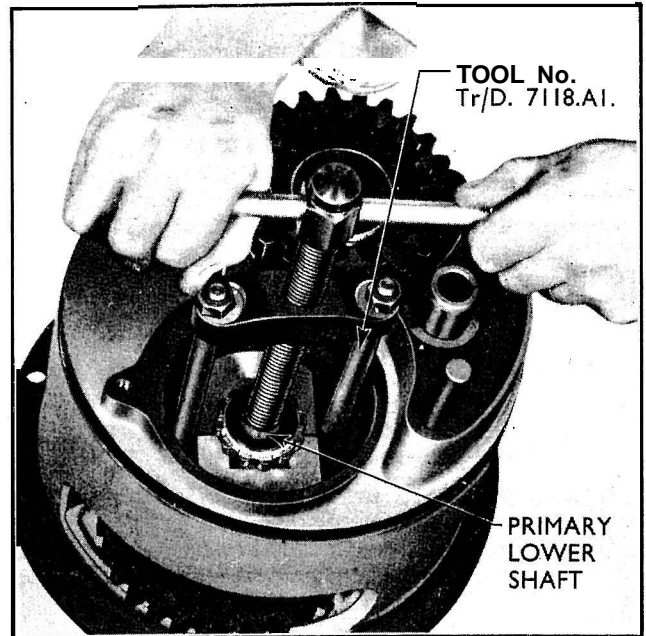

Fig. 161
- 7 Remove the primary lower shaft, lower shaft gear and power take-off drive gear, after withdrawing the small bearing from the end of the shaft, using tool No. Tr/D 7118-A1. Split adaptors fit behind the bearing as shown in Fig. 161.